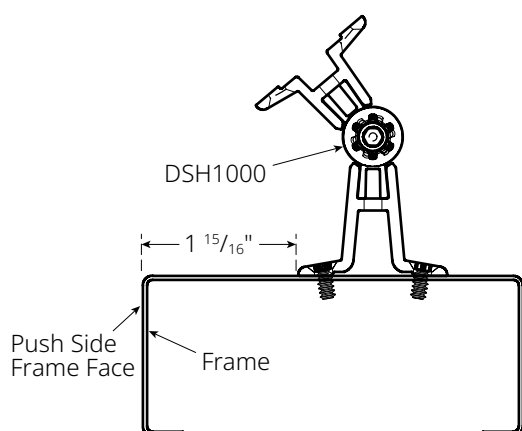

Fig. 1
- A. On hinge jamb side, scribe vertical lines at top and bottom of opening, $1 \frac{15}{16}$ " from push side of door frame face as shown (Fig. 1).